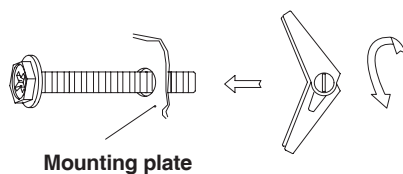

Figure 19
1. Insert toggle bolts through mounting plate at required locations and add the spring loaded toggles. See Figure 19.